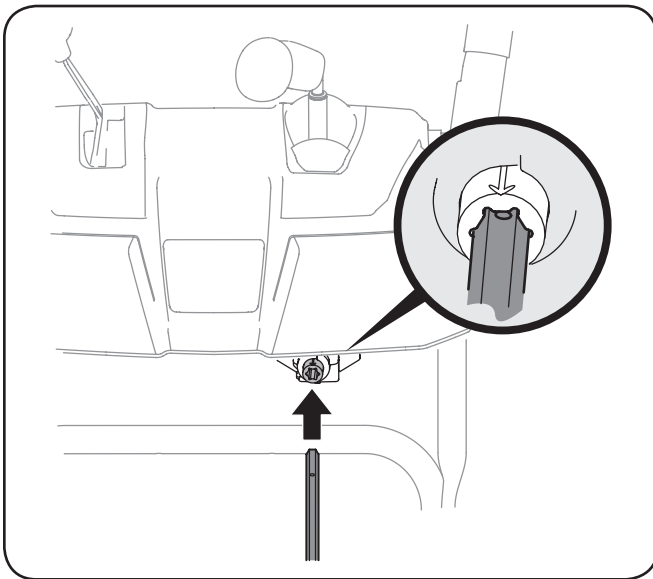

Figure 3-8
- Insert the chute control rod into the pinion gear below the joystick. Make sure to line up the hole in the rod with the arrow on the pinion gear. See Figure 3-8.